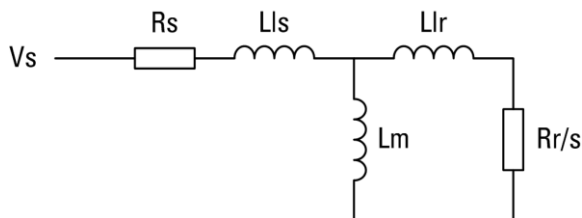

Figure 23 AC motor single-phase equivalent circuit
- A value for each of the electrical parameters of the induction motor as shown in Figure 23.